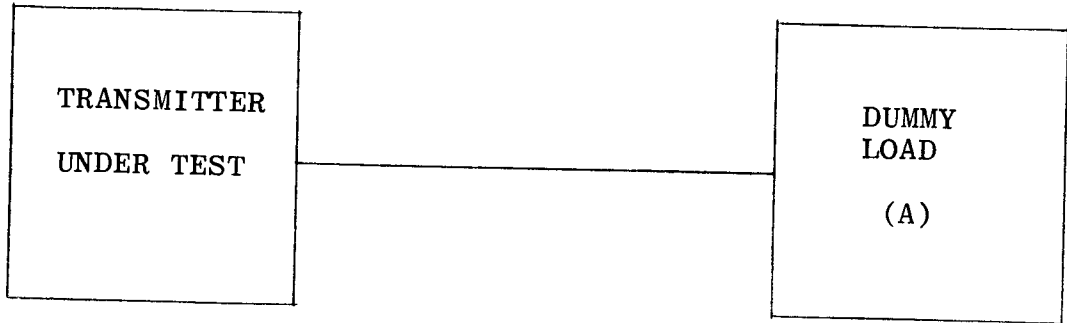

FIGURE 2.6
- a. Connect the equipment as shown in Figure 2.6.